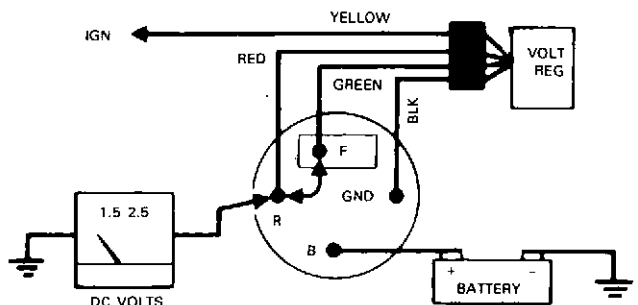

FIG. 4 Ignition On — Engine Not Running
**TEST 2 — IGNITION ON — ENGINE NOT RUNNING (Refer to Fig. 4)**